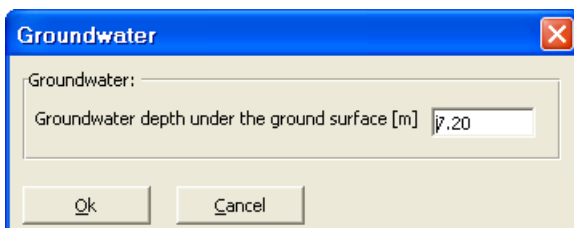

Figure 9-18 "Groundwater depth under the ground surface" edit box
- Double-click on the groundwater level. The corresponding edit box appears allowing you to modify the groundwater depth under the ground surface, Figure 9-18. To neglect the uplift pressure on the foundation, groundwater level is chosen at anywhere under the foundation basement